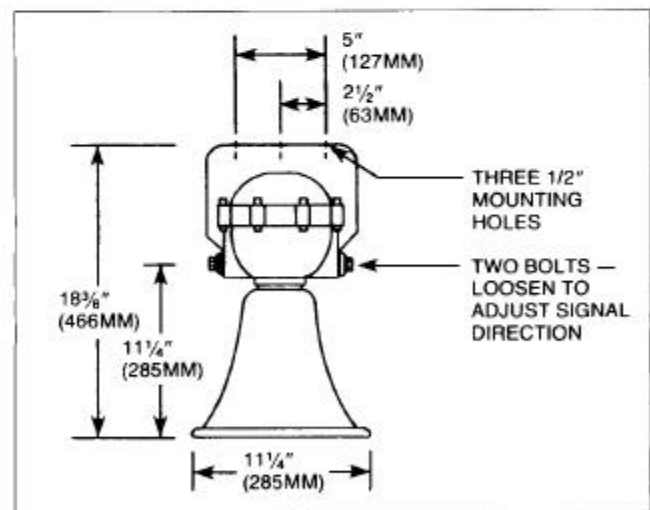

Figure 1. Signal Dimensions and Mounting Details
Dimensions	Refer to Figure 1
3. **Install Unit.** Mount unit in selected location using its mounting bracket and three bolts (not supplied). Refer to Figure 1 for size and location of mounting holes.
4. **Signal Direction Adjustment.** To adjust signal direction, loosen two bolts, shown in Figure 1, rotate signal to desired position, and then tighten bolts.